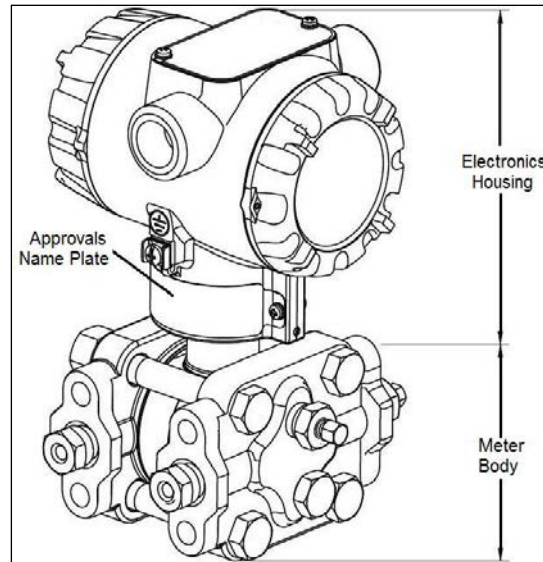
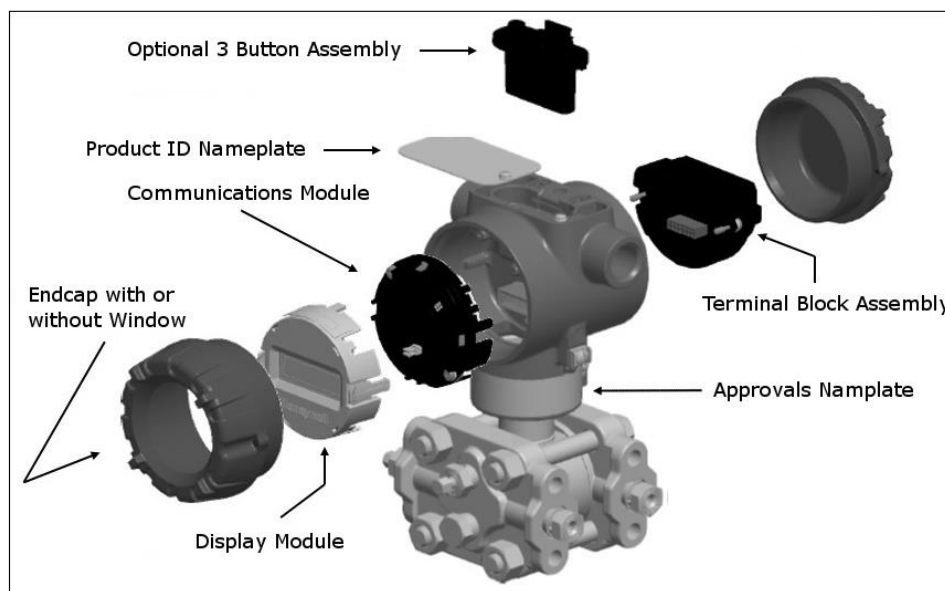
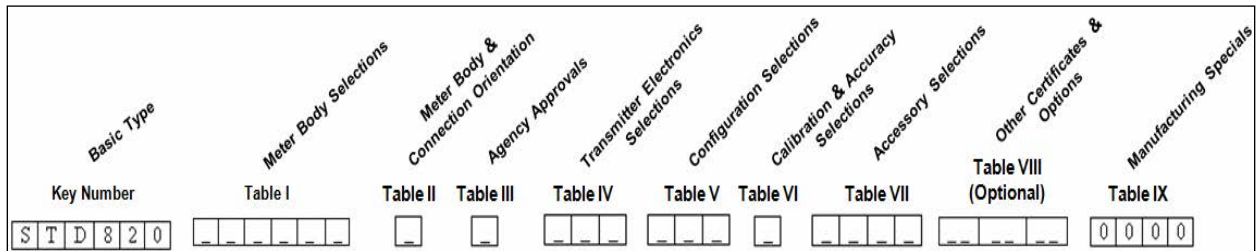

Figure 1 – ST 800 Major Assemblies
Figure 2 – Electronics Housing Components
Figure 3 –Typical ST 800 Name Plate
As shown in Figure 1, the ST 800 is packaged in two major assemblies: the electronics housing and the meter body. The elements in the electronic housing respond to setup commands and execute the software and protocol for the different pressure measurement types. Figure 2 shows the assemblies in the electronics housing with available options.
The transmitter nameplate mounted on the bottom of the electronics housing (see Figure 1) lists its model number, physical configuration, electronics options, accessories, certifications, and manufacturing specialties. Figure 3 is an example of a typical Gauge Pressure (GP) or Atmospheric Pressure (AP) transmitter name plate. The model number format consists of a Key Number with several table selections. The Differential Pressure (DP), Absolute Pressure (AP), and Gauge Pressure (GP) name plates are essentially the same. However, the DP provides one additional entry (7 vs. 6) in the meter body Selections (Table I) to accommodate the static pressure rating.
An “approvals” name plate is located on the bottom of the electronics housing assembly; see Figure 1 for exact location. The approvals name plate contains information and service marks that disclose the transmitter compliance information. Refer to Appendix C of this document for safety certification requirements and details.
Zero and Span adjustments are possible in ST 800 SmartLine pressure transmitters with the optional three-button assembly located at the top of the Electronic Housing (see Figure 2).